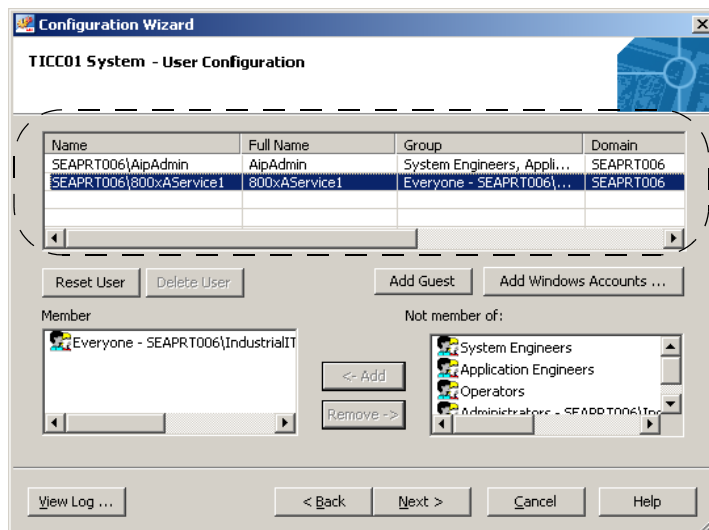

Figure 21. User Configuration Dialog Box
4. Select **Users**, see Figure 11. The User Configuration dialog box is displayed, see Figure 21.
- 4. In the User Configuration dialog box, you can select the Industrial^{IT} 800xA groups of which a Windows user must be member, see Figure 21. Select Windows user in the top window and use the **Remove** and **Add** buttons to move Industrial^{IT} 800xA groups to the **Member of** field.